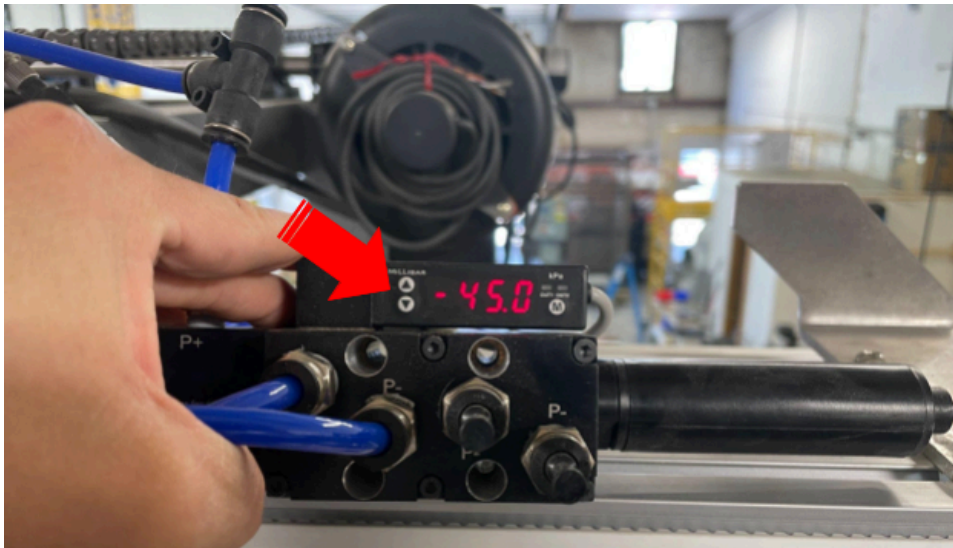

Fig. 8: Adjust pressure setpoint value using Up and Down Arrow buttons
4. Use the Up and Down Arrow buttons to adjust the setpoint to the desired value as shown in Fig. 8.